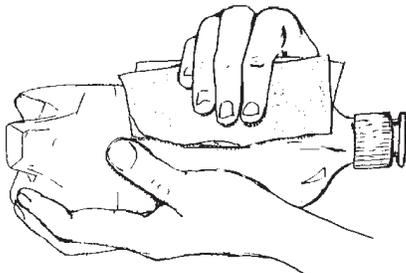

Figure 7
4. Sand the marked areas where the fins will be (Figure 7).